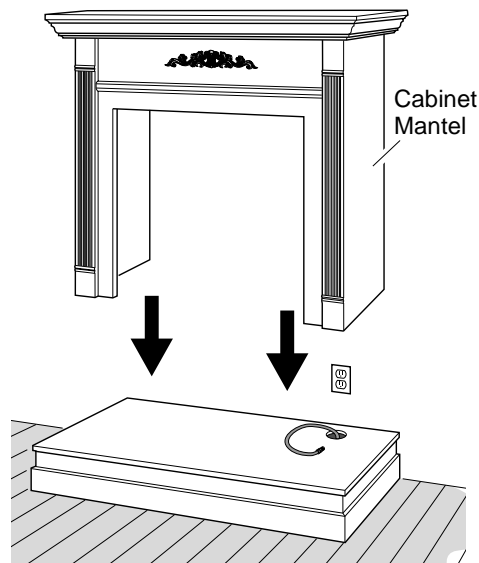

Figure 9 - Installing Cabinet Mantel
- Center cabinet mantel on hearth base (see Figure 9). Make sure mantel is flush against wall.